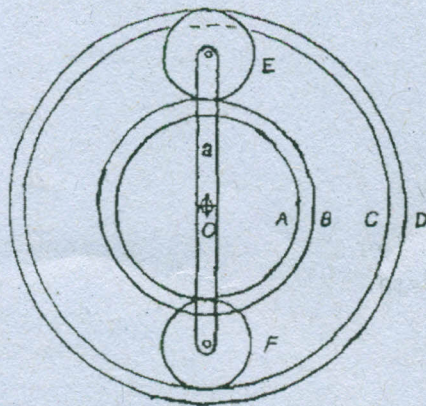

Fig. 14 (b) (i)
- (b) (i) In the epicyclic gear train shown in Fig 14 (b) (i) the compound wheels A and B as well as internal wheels C and D rotate independently about the axis O. The wheels E and F rotate on the pins fixed to the arm a. All the wheels are of the same module. The number of teeth on the wheels are $T_A = 52$, $T_B = 56$, $T_E = T_F = 36$.